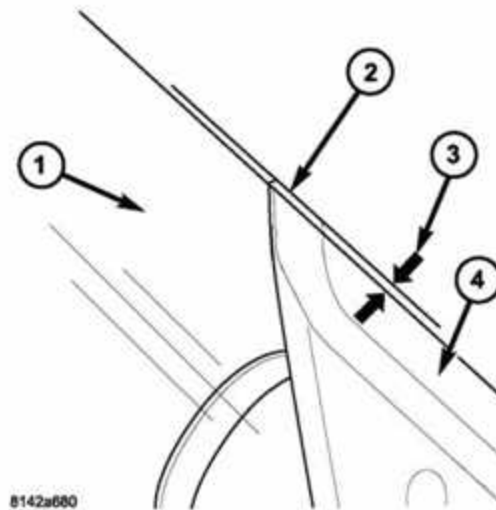

Fig. 1 DIMENSION AT MIRROR TRIANGLE
1. Raise the door glass all the way up. There should be a 1 mm (0.04 in.) bulge in the rubber above the upper edge of the sealing mirror triangle (Fig. 1).
3. Raise the door glass until there is a 1 mm (0.04 in.) bulge in the rubber above the upper edge of the sealing mirror triangle (Fig. 1).